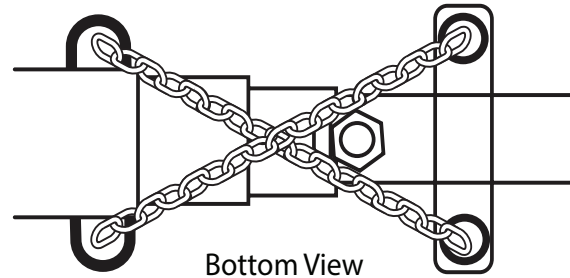

Figure 4-2. Safety Chains
6. Connect the safety chains to the tow vehicle in criss-cross fashion to the cradle draw bar in case of accidental disconnect. See Figure 4-2.